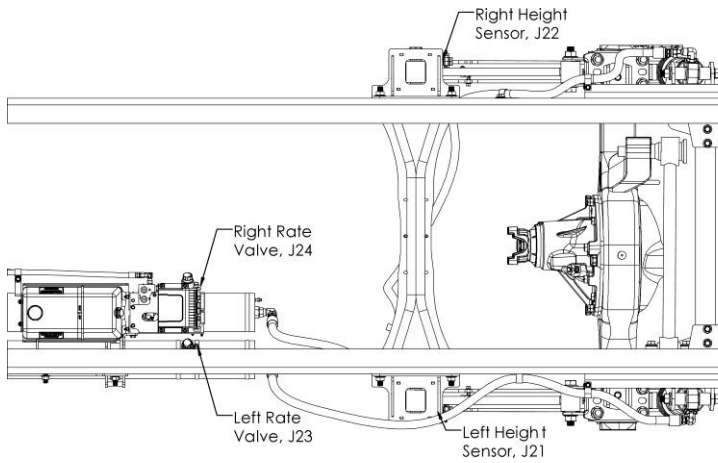

Figure 23: Rate valve and height sensor electrical connections
5. Connect height sensor and rate valve connections, See Figure 23.